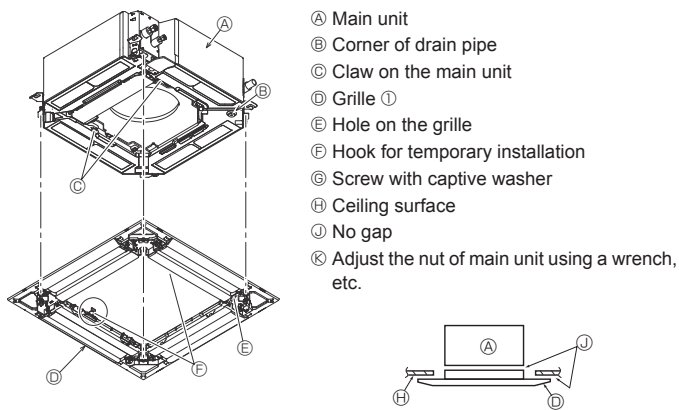

Fig. 9-6
### 9.4.2. Temporary installation of the grille (Fig. 9-6)
- By tightening the pre-installed screws, fix the grille onto the main unit. (Fig. 9-6)
Make sure there is no gap between the main unit and the grille or between the grille and the ceiling surface. (Fig. 9-6)